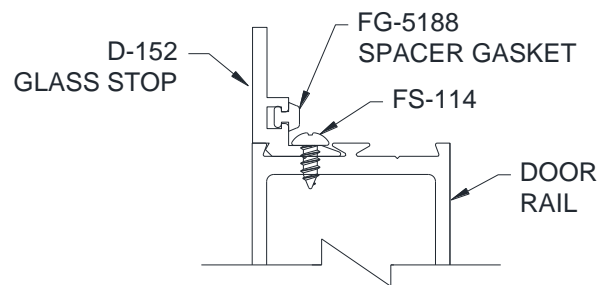

Figure 23: Installing D-152 Glass Stop
- 10.2.2 Install (2) **FG-5000-PP-1** Setting Blocks / Side Blocks per *Figure 23* at each location stacked to achieve the 1/4" required block height. The blocks are adhesive-backed for easy installation. (Blocks may be reduced to single block if glass is over-sized)